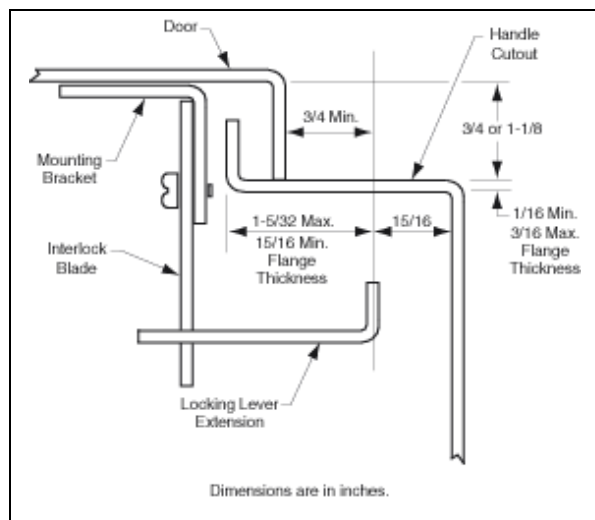

Figure 3 Installation—Bottom View
2. Attach the blade to the bracket with two 8-32 x 5/16" screws (Figure 3).